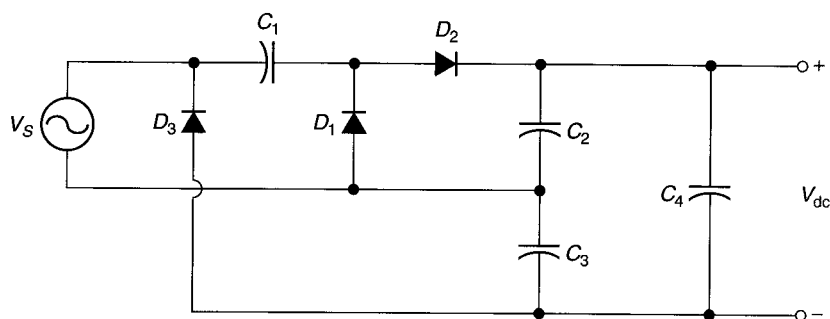

FIGURE 4.42
- 28.** The circuit shown in Figure 4.42 has a  $20\text{ V}_{\text{pk}}$  input signal. Determine the values of  $V_{C1}$ ,  $V_{C2}$ ,  $V_{C3}$ , and  $V_{C4}$  for the circuit. Assume that the diodes are ideal components.
- 29.** The circuit shown in Figure 4.42 has a  $15\text{ V}_{\text{ac}}$  input signal. Determine the values of  $V_{C1}$ ,  $V_{C2}$ ,  $V_{C3}$ , and  $V_{C4}$  for the circuit. Assume that the diodes are ideal components.